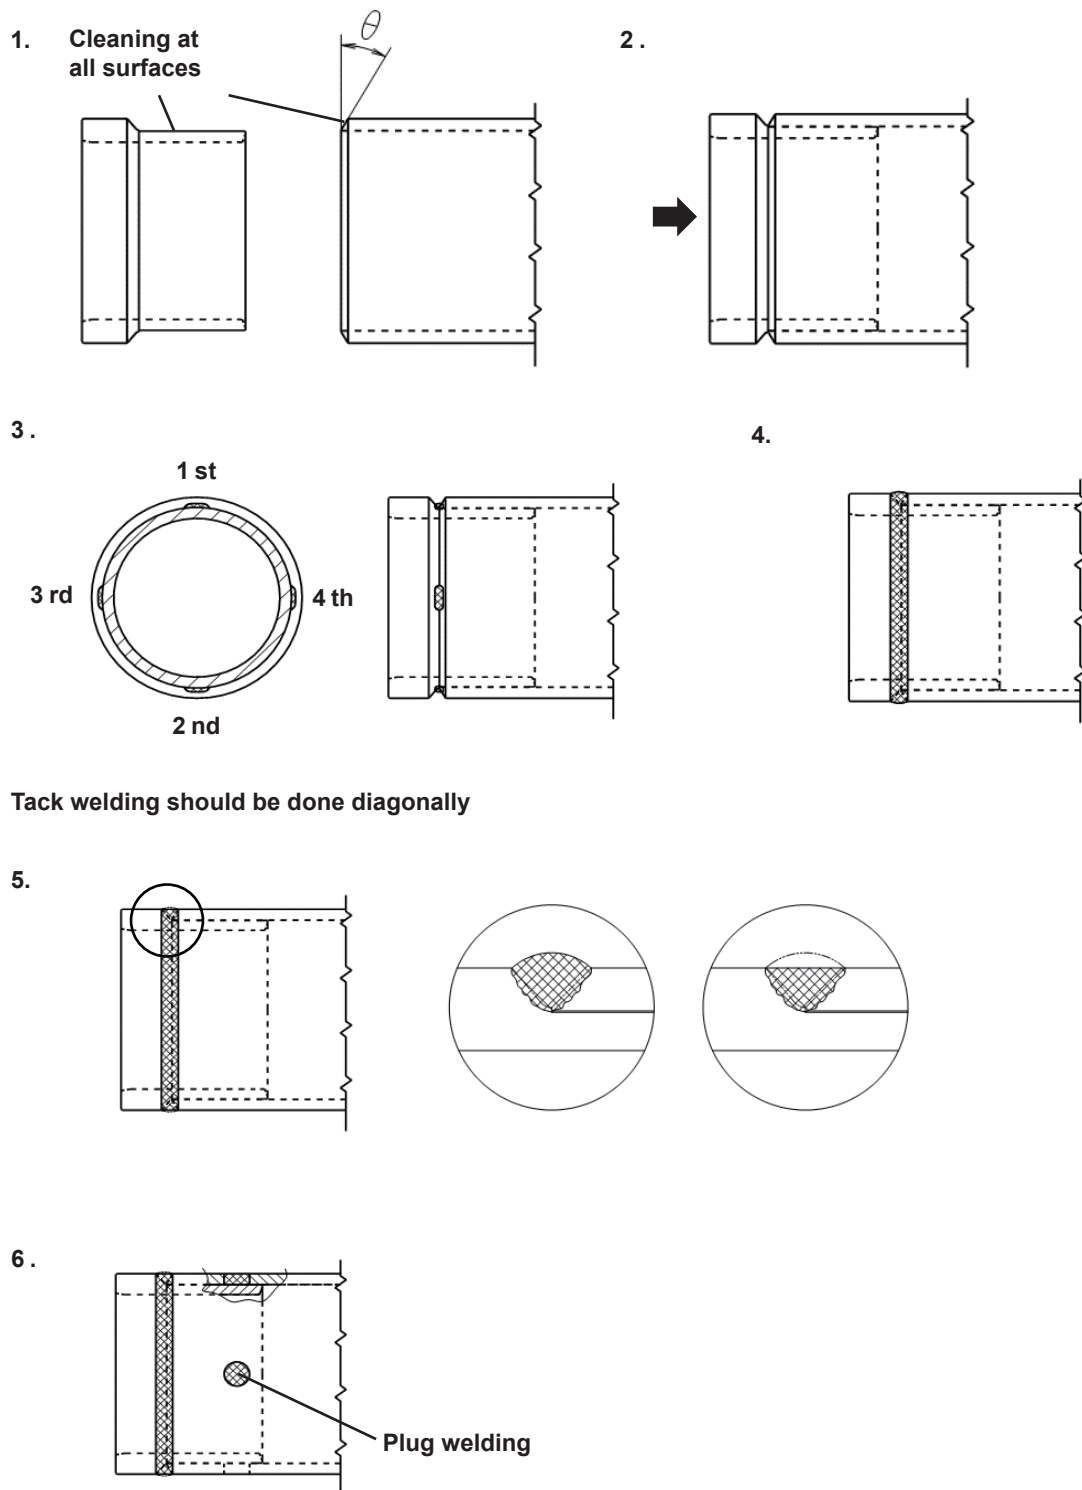

Figure1: Weldig procedure
1. Bevel the end of the casing to an angle of about 60 degrees (θ in Figure1 should be 30 degrees). Be sure that all surfaces to be welded are clean and free from any dirt, contamination including moisture. Pre-heat the end of the casing shoe to 100 degrees (Celsius).
4. Welding on the circumference. Normally (3) passes is recommended. Take sufficient time to weld the casing using the correct welding rod.